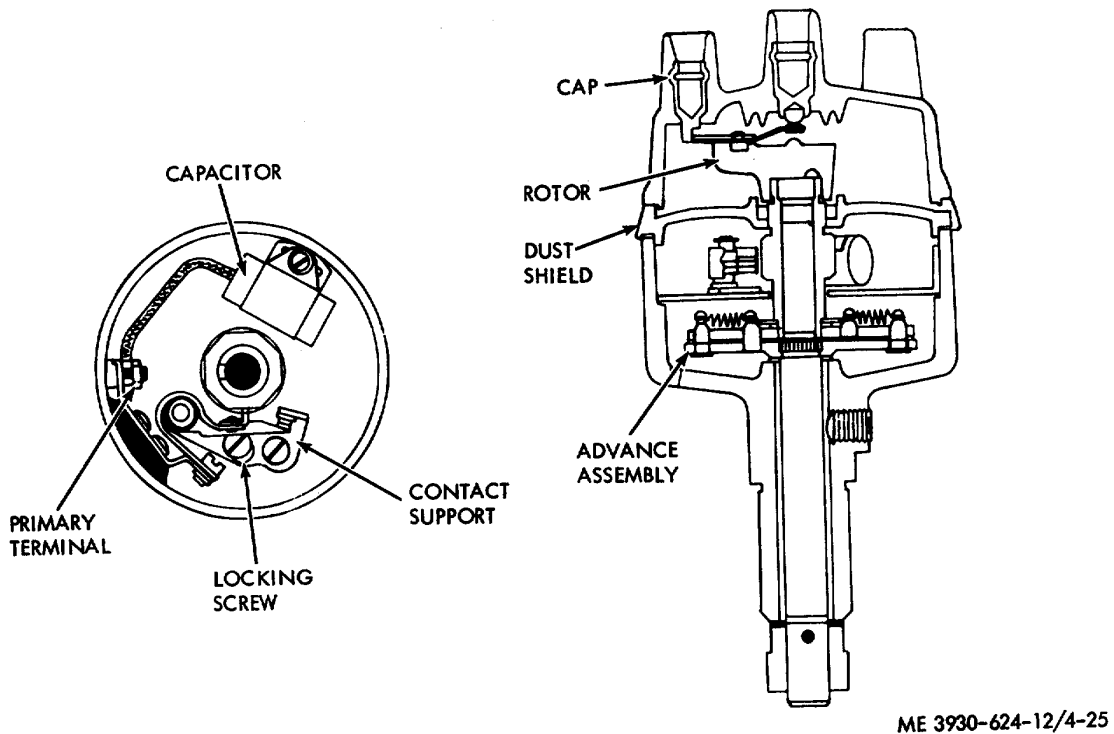

Figure 4-25. Distributor.
(1) Remove the distributor cap by loosening the retaining screws and remove the rotor and the dust shield from the distributor housing.
(2) Remove the nut and washer from the inner end of the primary terminal (fig. 4-25).